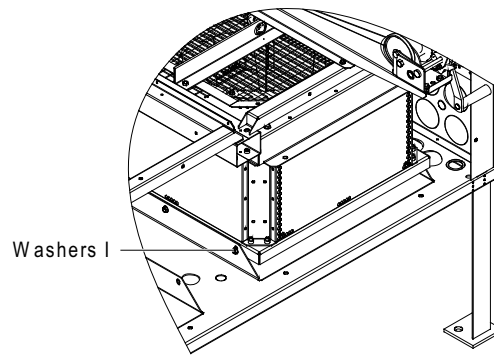

Figure 2-32 *Position of fixing bolt and washer I*
3. Cut off the cable tie binding the fan cables to make the cables length satisfy fan lowering requirements, and then remove the fixing bolts and washers I (see Figure 2-32, totally 4 pcs) for fan transportation.